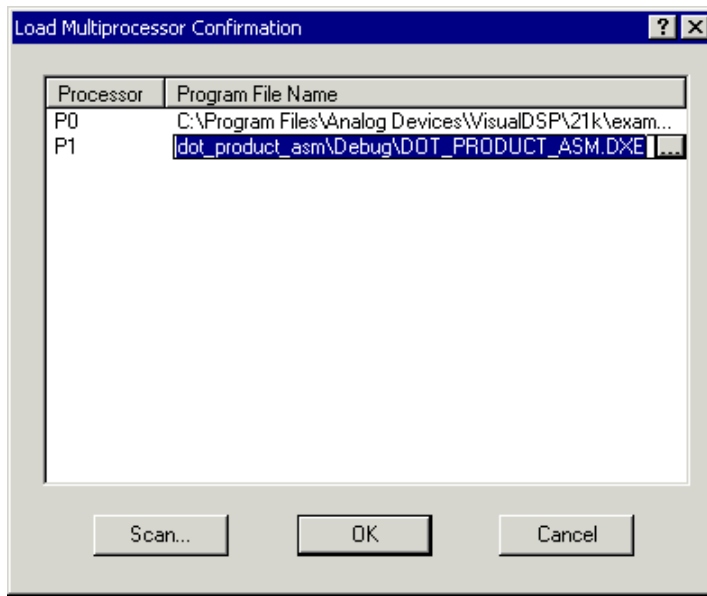

Figure 3-46. Load Multiprocessor Confirmation Dialog Box: Specifying Load dot\_product\_asm.dxe into Processor P1
- c. Double-click `dot_product_asm.dxe` to place the path to this program into the P1 row of the **Load Multiprocessor Confirmation** dialog box (see Figure 3-46).